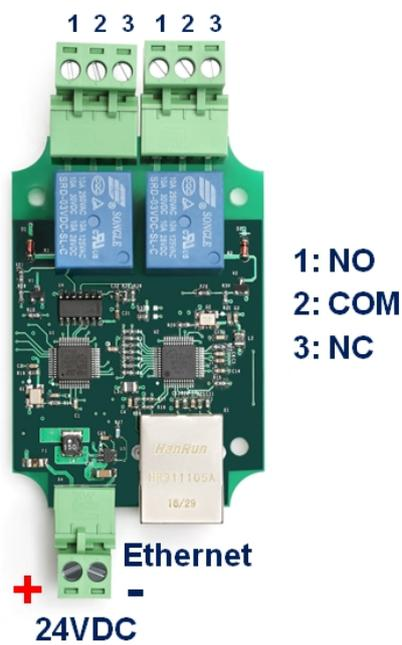

Fig. 1.1
1. Connect BE-M104 with your routers or computer via a standard Ethernet cable. And then power it on with 5 - 24VDC power supply.(see **fig.1.1 at page 2**)
1. Connect BE-M104 with your routers or computer by Ethernet cable, and then power it on with 5 - 24VDC power supply.(see **fig.1.1 at page 2**)
1. Connect BE-M104 with your routers or computer by Ethernet cable. And then power it on with 5-24VDC power supply.(see **fig.1.1 at page 2**)